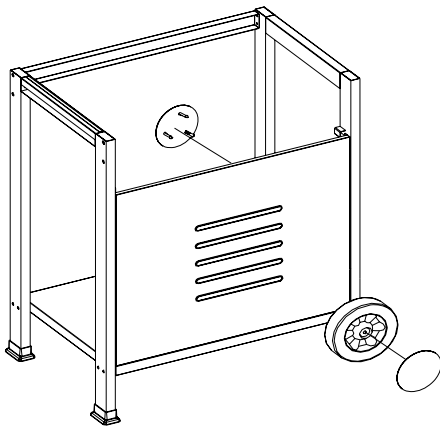

Figure 6
2. With the wheels cap onto the wheels. (Fig.6)